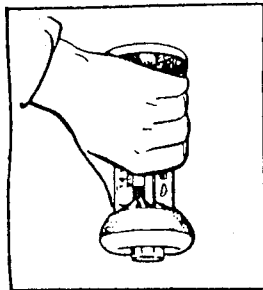
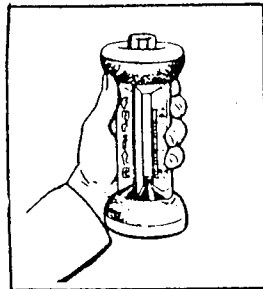

Figure 7
Figure 8
7. Absorb sample gas into FYRITE by *Inverting* until fluid drains into top reservoir (Fig. 7), then turn upright (Fig.8) to drain fluid into bottom reservoir. Repeat this step once.